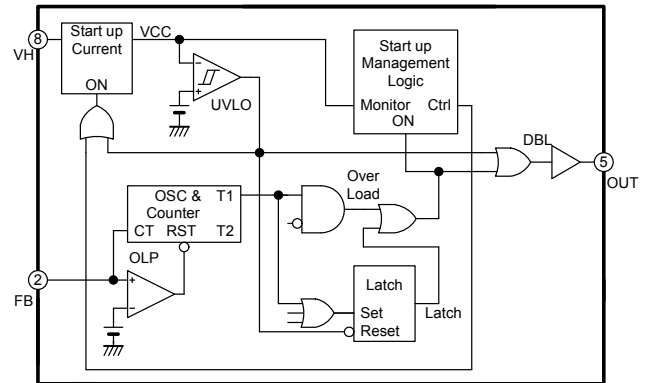
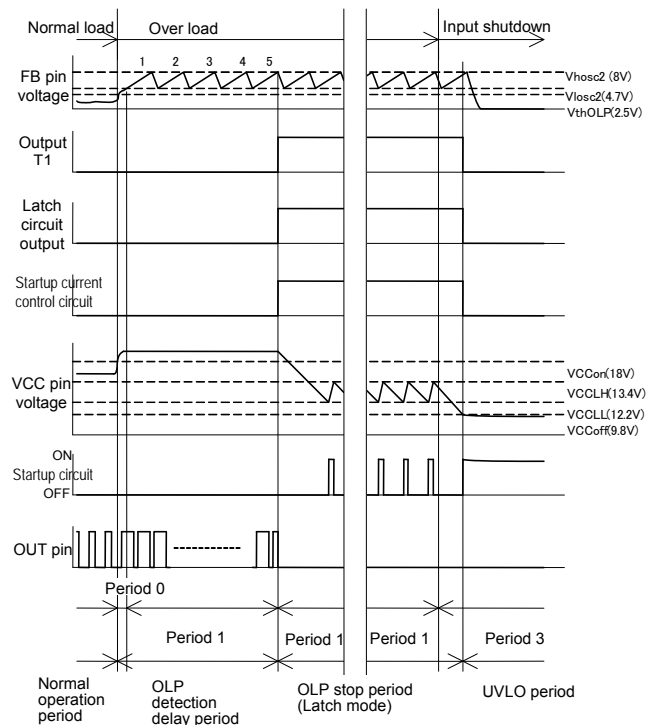

Fig.12 Overload protection circuit (timer latch type : FA5554/67)
Fig.13 Overload protection timing chart (timer latch type)
FA5554/FA5567 has latch shutdown type overload protection in it. Its circuit block is shown in Fig.12 and a timing chart of the protection operation in Fig.13.
- If FB pin voltage rises more than 2.5V (typ.), the oscillator for OLP begins to operate, and reset of a counter is canceled together. At this time, output T1 keeps Low level. And OUT pin still outputs pulses and continues PWM control (Fig.13 period 0-1).